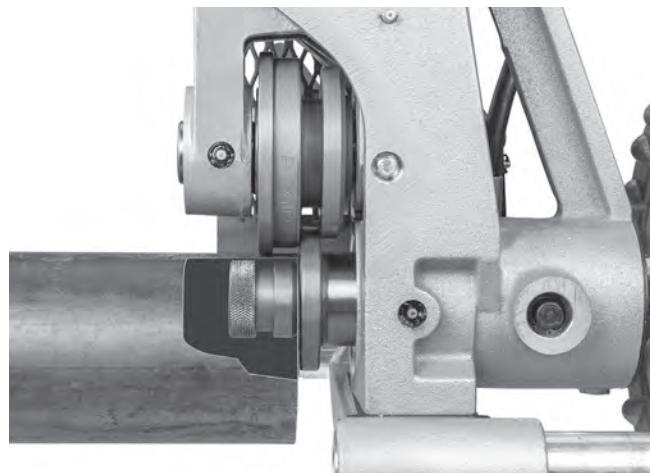

Figure 13 – Placing Pipe over Drive shaft, Flush to drive shaft flange (Stabilizer removed for clarity)
3. Appropriate pipe stands must be available to support the pipe. Adjust the height of the pipe stands so that the pipe will be level and the top inner diameter of the pipe will sit on top of the drive roll (see Figure 13).
4. Place the pipe on the stand(s) with the end of the pipe flush to the drive shaft flange and the inside of the pipe contacting the top of the drive shaft (Figure 13). Make sure the pipe is stable and secure.